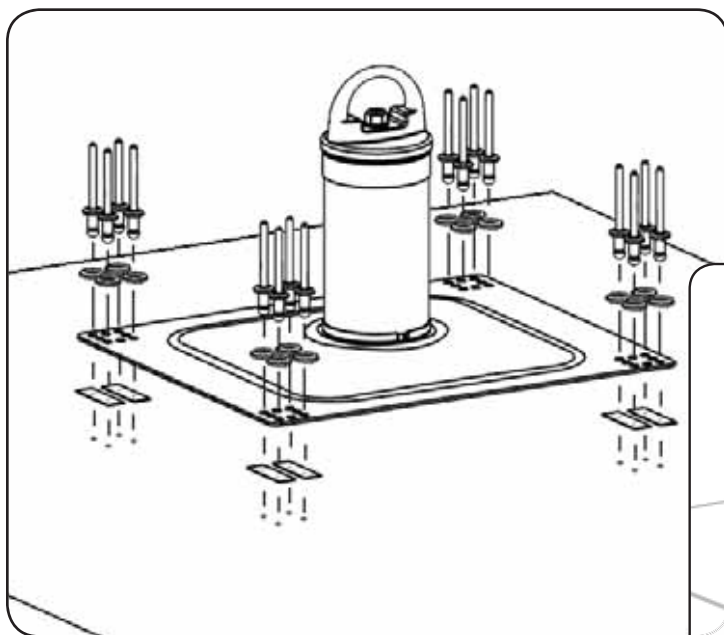

Fig. 7a
1. Position the base on metal decking as shown in Fig. 7a.
**WARNING:** All sixteen (16) rivets with sealing washers must be used to secure the base properly.